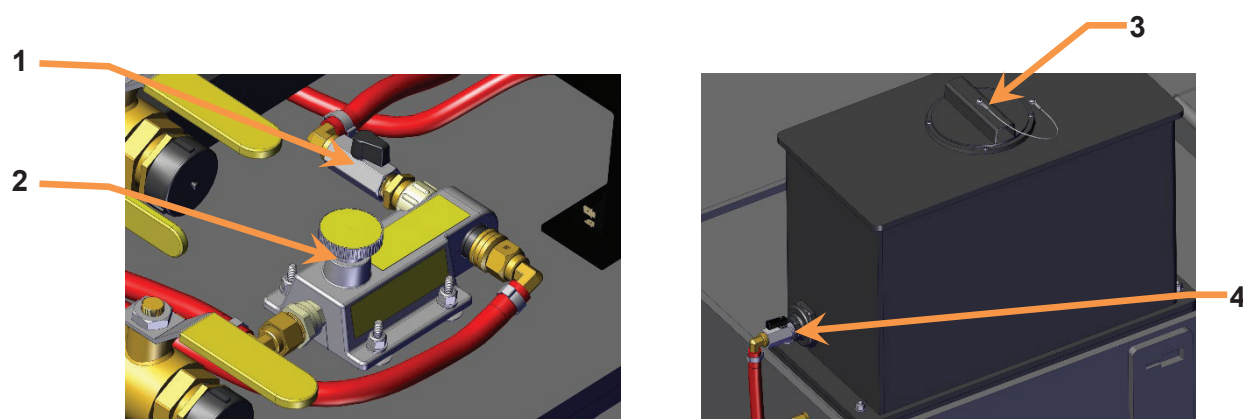

Figure 4 – Foam system
1. Ensure a proper amount of foam concentrate exists in the foam tank (*Figure 4, Item 3*), and the foam supply valve is open. (*Figure 4, Item 4*)
3. Set the foam controller to the desired concentrate percentage. (*Figure 4, Item 2*)
5. Open the foam shut-off valve. (*Figure 4, Item 1*)
1. Close the foam shut-off valve. (*Figure 4, Item 1*) and the foam supply valve (*Figure 4, Item 4*)